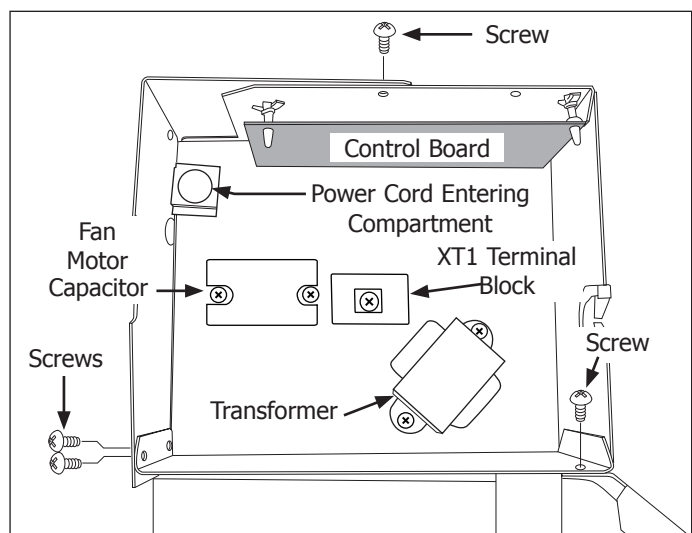

Figure 4-10. Control Box FAS Series No Heat
3. Disconnect black wire from side 1 and white wire from side 2 of terminal block XT1. (See Figure 4-10)